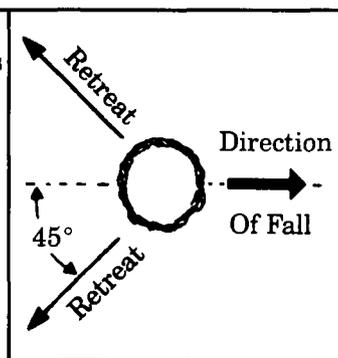

Figure 18
- Plan a clear retreat path** to the rear and diagonal to the line of fall. Figure 18 .
Stay on the uphill side of the terrain to avoid injury from the tree rolling or sliding downhill after it is felled. Figure 18 .